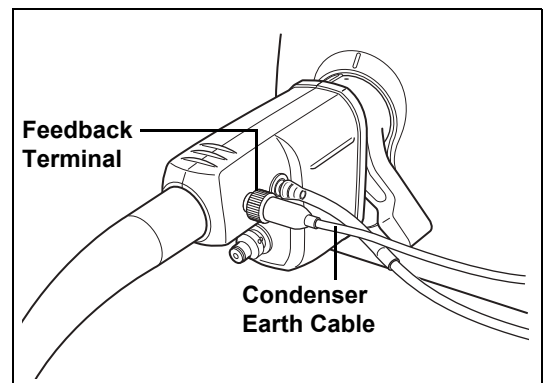

Figure 3.6
- 2 Connect the other end of condenser earth cable to the feedback terminal on the PVE connector of the endoscope. (Refer to Figure 3.6.)